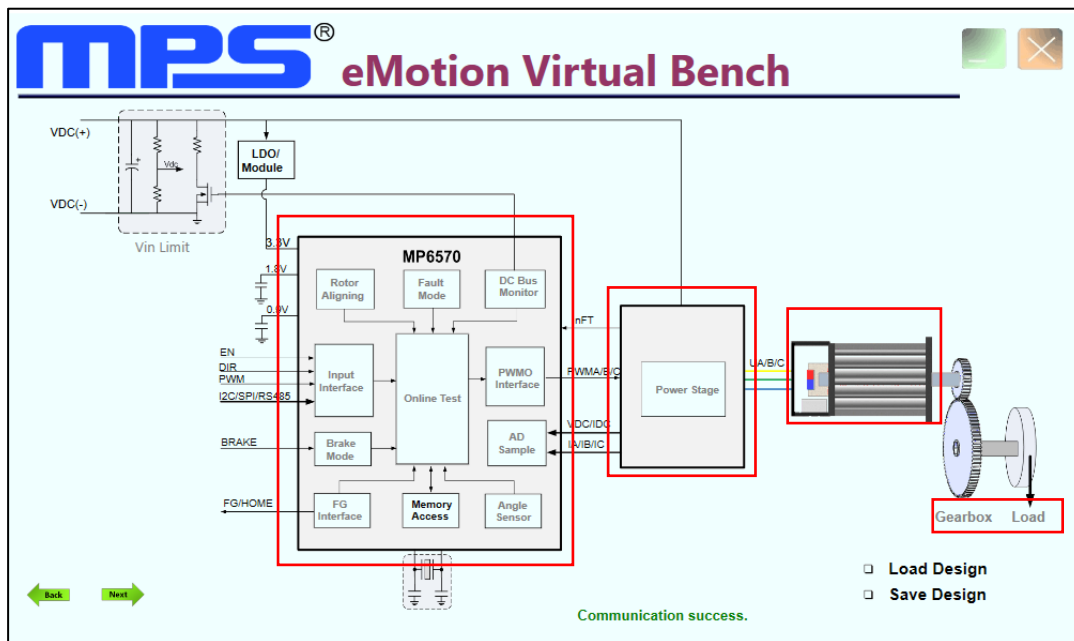

Figure 13: Configurable Parameters
3. Changes can be made to the parameters outlined in red (see Figure 13).